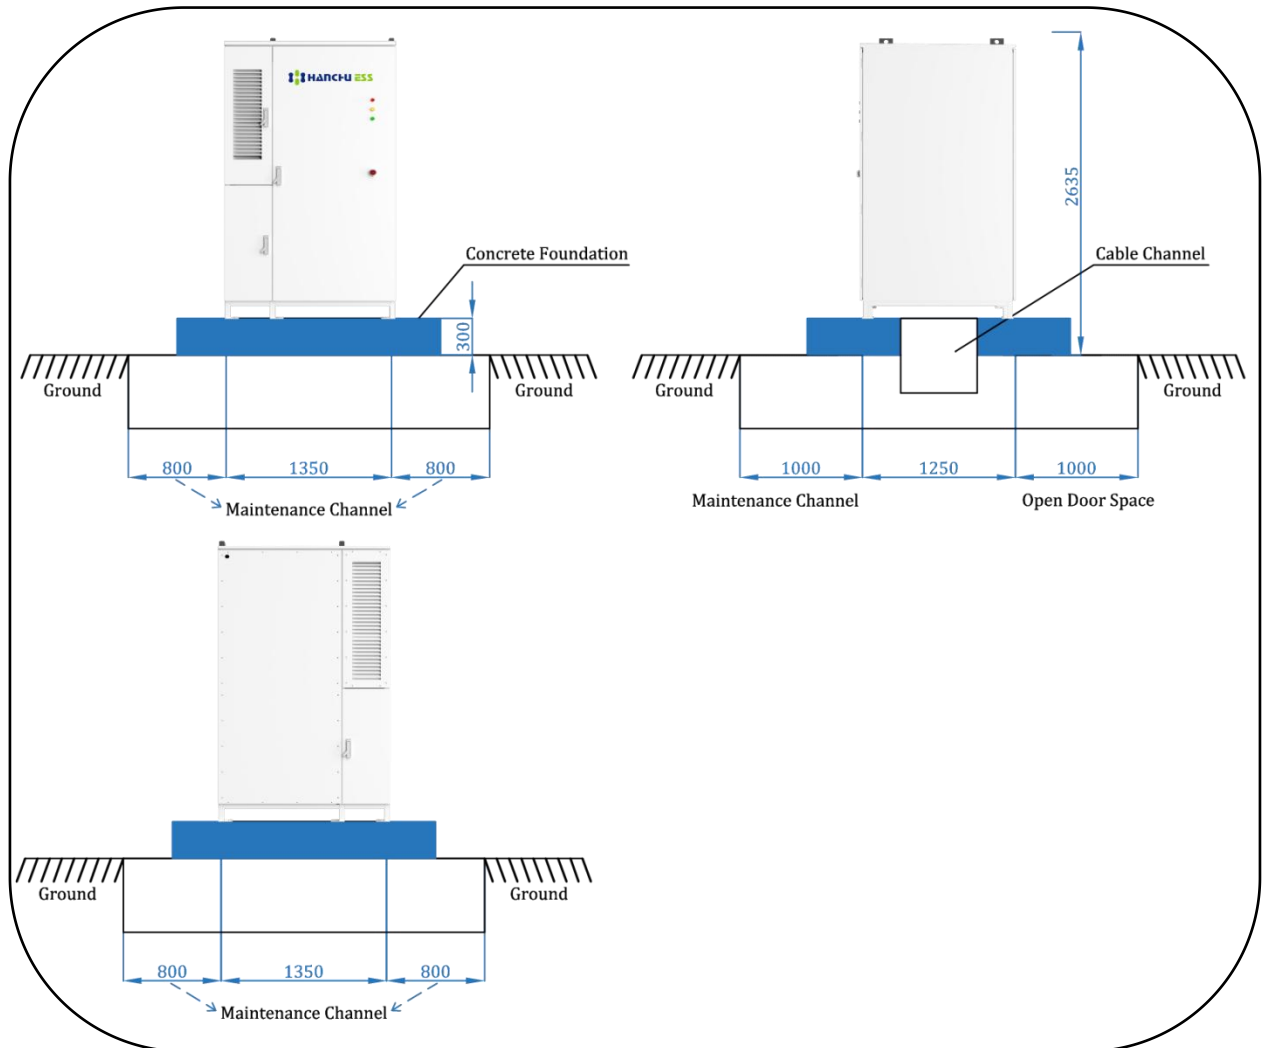

Figure 1 Equipment installation in place
- Select the equipment installation location in advance according to the product dimensions, complete positioning and fixing, and the recommended foundation is as shown in Figure 1;